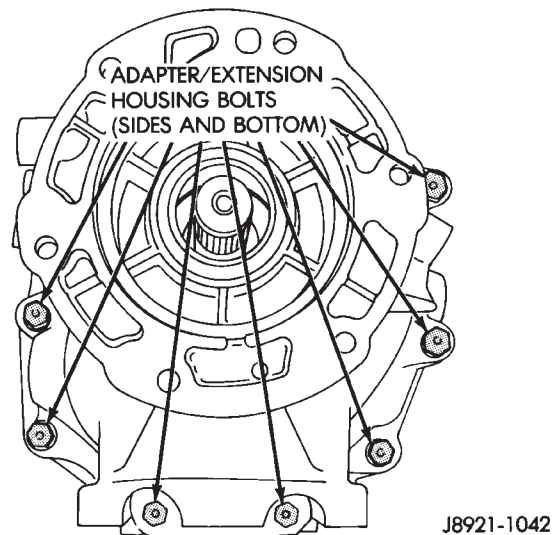

Fig. 12 Adapter Housing Bolt Locations
- (13) Remove adapter housing bolts (Fig. 12).